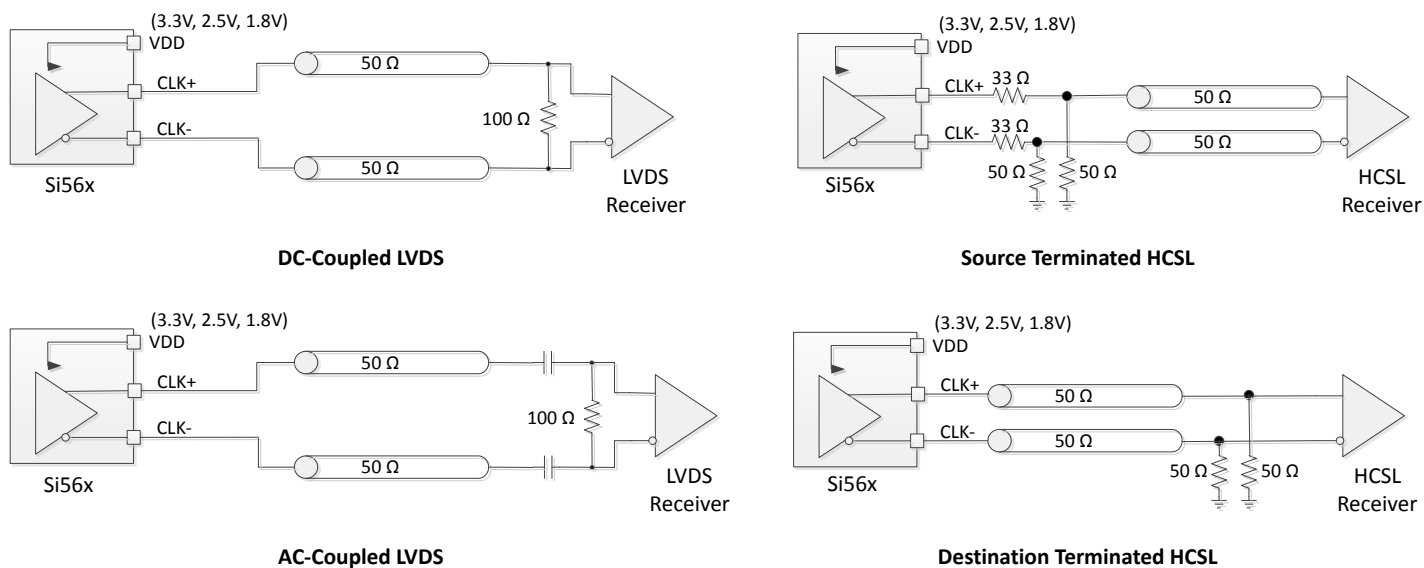

Figure 4.2. LVDS and HCSL Output Terminations
- R_{term} = 100 Ω (differential) (see Figure 4.2).
- R_{term} = 50 Ω to GND (see Figure 4.2).